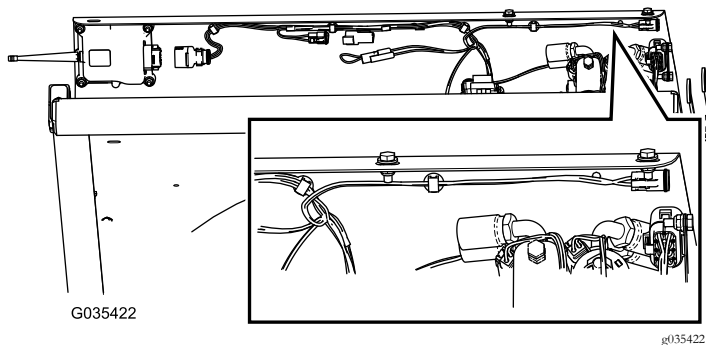

Figure 13
3. Route the E-Stop connection end of the wire harness along the underside of the fender guard as shown in Figure 13.